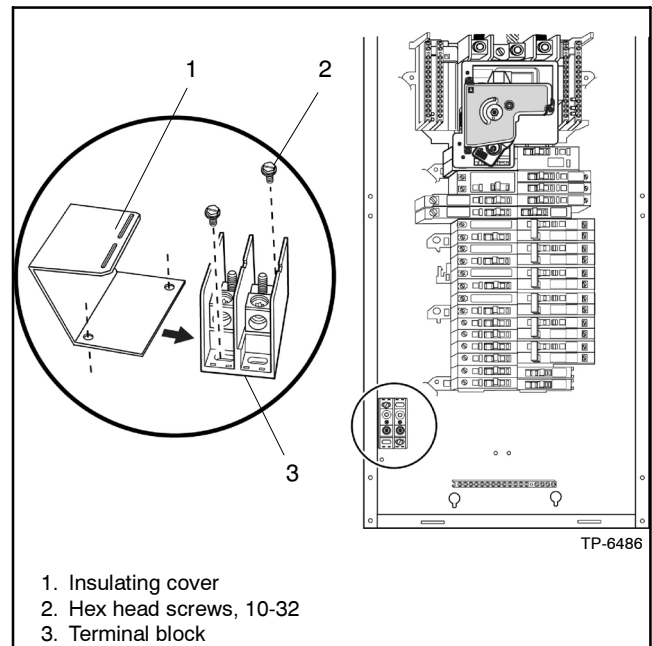

Figure 2-12 Installing Generator Terminal Block
1. An insulating cover is provided with the generator terminal block. Bend the cover to fit around the terminal block before installing it. See Figure 2-12.